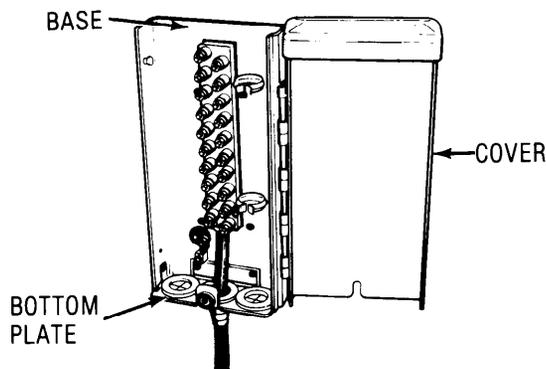

Fig. 1 — WP Series Terminal Housing
2.01 The WP Series housings are designed as distribution terminals for wall or pole mounting. They house unprotected terminals for making service drop connections without permitting access to the distribution cable (Fig. 1).